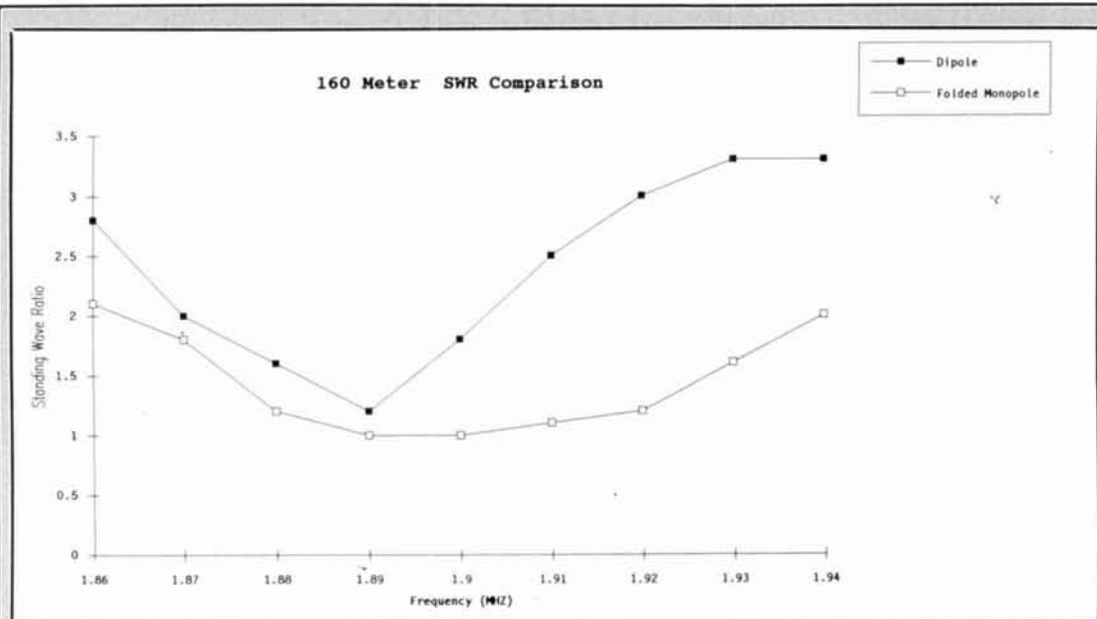

Figure 1A. 160-meter SWR comparison.
Superimposed measured plots of the 160 and 80-meter verticals and a horizontal dipole's SWR versus frequency plot are given in **Figures 1A and B**. The folded monopole bandwidth is much broader than that of a simple horizontal dipole. Please note that
•**Sampling frequency.** A typical analog waveform will change in amplitude, frequency, and shape over time (**Figure 1A**). To store such a signal in a digital computer, dig-